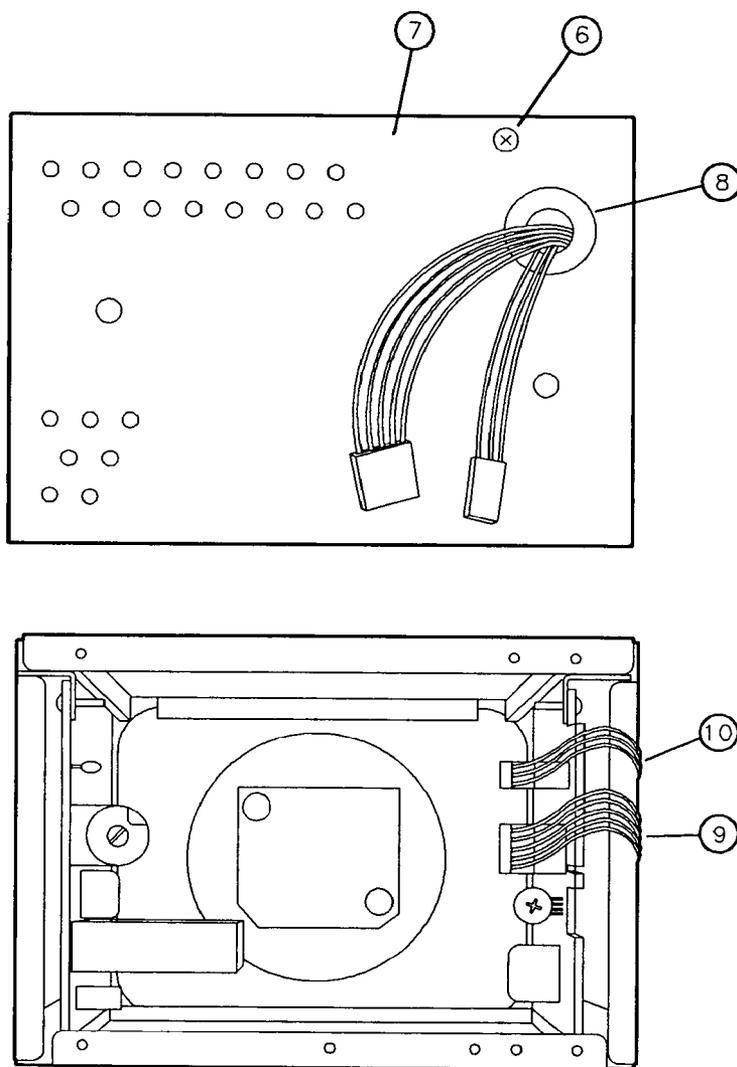

Figure 3-4. A2 Display, Rear View
11. Remove the screw and flat washer (6) that secure the A2 Display to its enclosure (7). See Figure 3-4.
12. Slowly pull the display out of its enclosure while routing W2 and W3 through the opening in the enclosure (8).
1. Connect W2 (9) and W3 (10) to the A2 Display. See Figure 3-4.